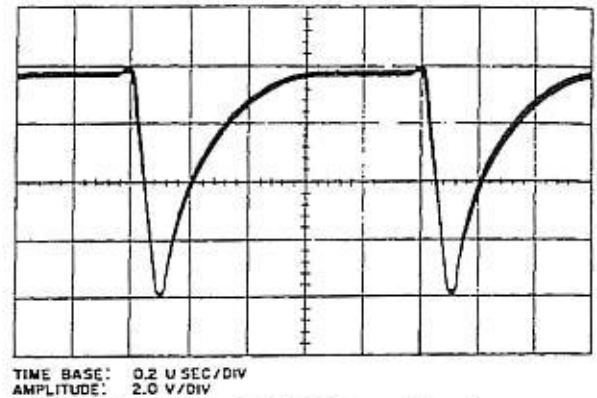

Figure 6.9 – Q14, Collector Waveform
c. Reconnect oscilloscope to collector of pulse shaper stage Q14 (or left end of R47). The observed 1 MHz waveform should resemble the one shown in figure 6.9.